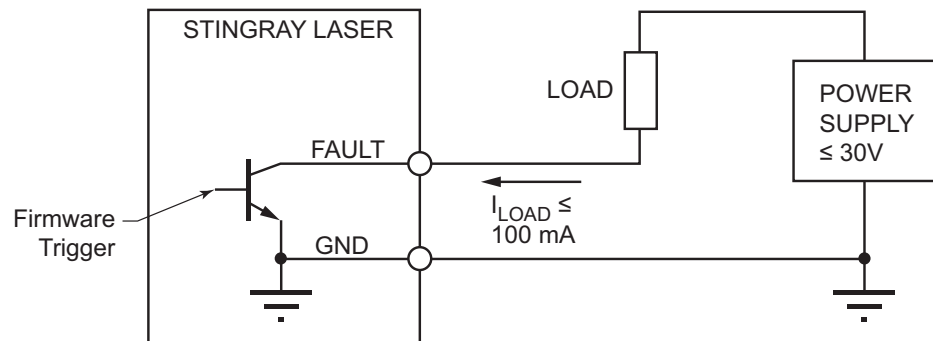

Figure 2-45. Health Monitor Connections
- Connect the load between the voltage source and the open collector output, as shown in Figure 2-45.